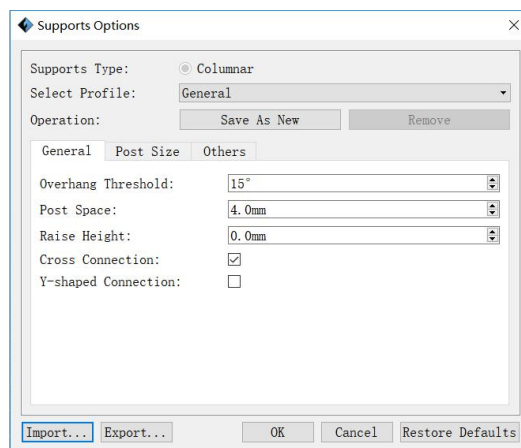

Figure 10 General setting interface
A. General setting:As shown in Figure 10.